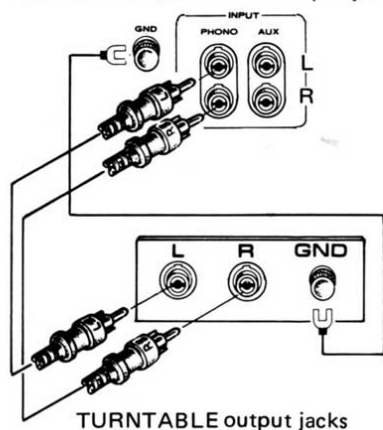

Fig. 7
The stereo turntable with a moving magnetic (MM) phono cartridge can be connected to the PHONO input jacks (see Fig. 7).